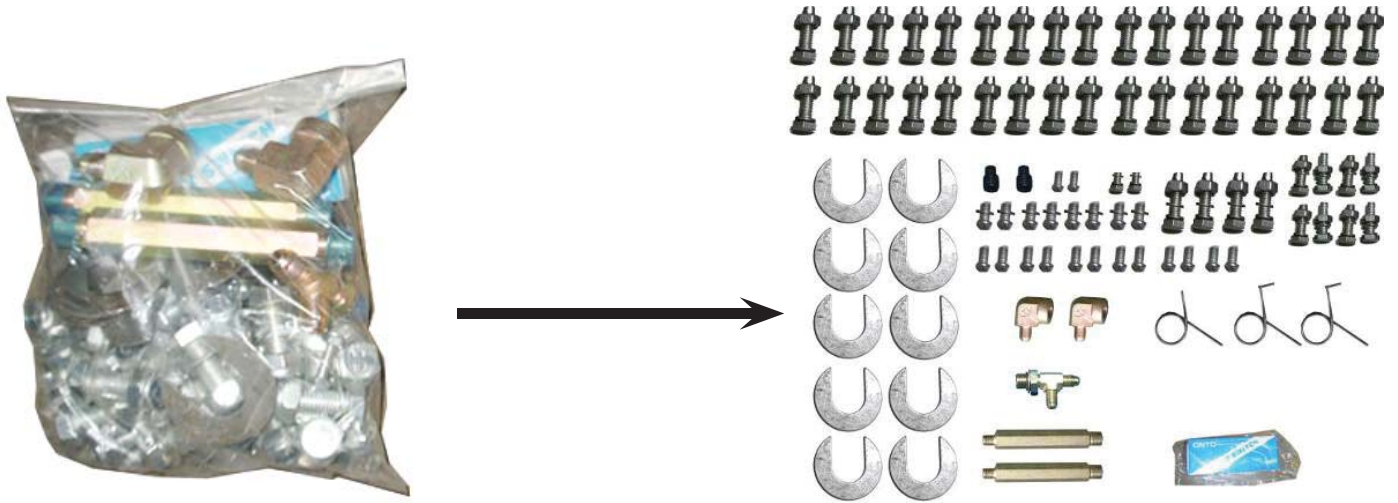

Fig. 13
8. Check the parts in parts bag 1# according to parts bag list (**See Fig. 13**).